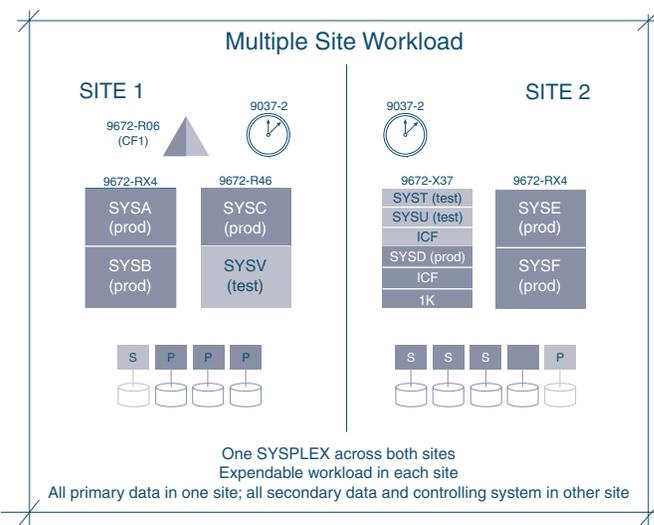

Figure 2: Multi-site Workload Configuration During Normal Processing
The multiple site workload configuration is shown in Figure 2: Multi-site Workload Configuration During Normal Processing. The production systems, SYSA, SYSB, SYSC in site 1, and SYSD, SYSE, SYSF in site 2 execute the mission critical workload. SYST, SYSU, and SYSV are standby systems that provide processing resources when a production system is unavailable or a site is unavailable. The 9672-X37 in site 2 has the CBU feature and can be expanded to a 9672-XZ7 during an emergency. The controlling system, 1K, coordinates GDPS processing. The primary copy of data (P) in site 1 is mirrored to the secondary copy of data (S) in site 2. The online transaction processing and data sharing related CF structures reside in CF1 in site 1 and other structures reside in the ICF in site 2.